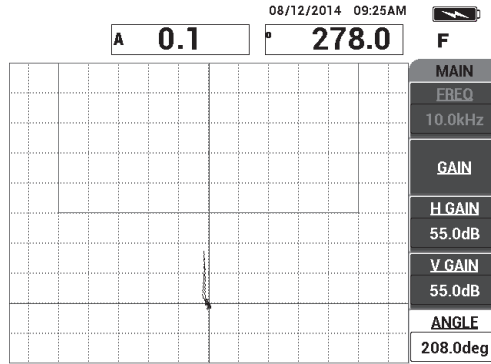

Figure 6-25 The signal angle adjusted upwards
- Press **ANGLE** (E key), and then adjust the signal angle so that the signal points upwards towards the alarm box (see Figure 6-25 on page 148).